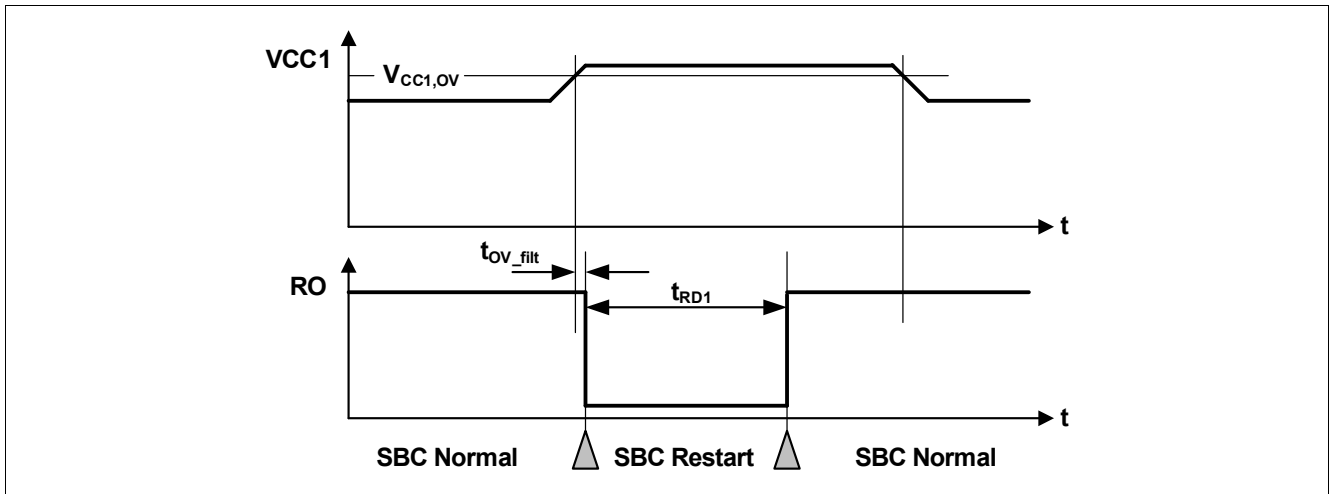

Figure 54 VCC1 Over Voltage Timing Diagram
- If the bit **VCC1_OV_RST** is set and **CFG_P** = '1', then SBC Restart Mode is entered. The FOx outputs are activated. After the reset delay time (t_{RD1}), the SBC Restart Mode is left and SBC Normal Mode is resumed even if the VCC1 over voltage event is still present (see also Figure 54). The **VCC1_OV_RST** bit is cleared automatically;